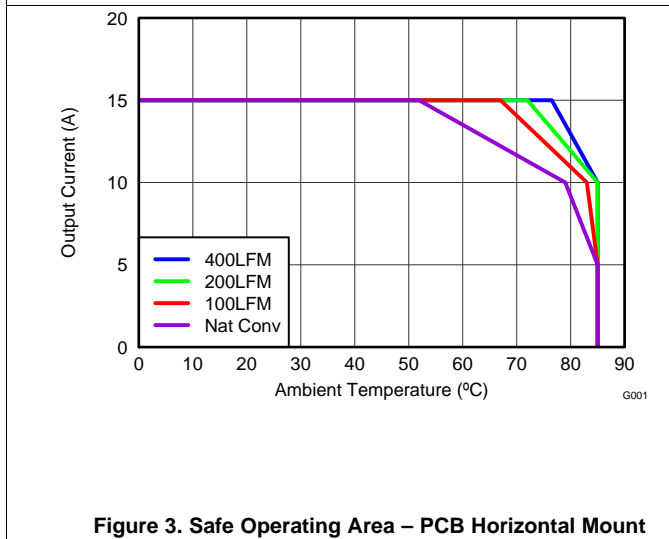

Figure 3. Safe Operating Area – PCB Horizontal Mount
$T_J = 125^{\circ}\text{C}$ , unless stated otherwise. For Figure 3 and Figure 4, the Typical Power Block System Characteristic curves are based on measurements made on a PCB design with dimensions of 4 inches (W) × 3.5 inches (L) × 0.062 inch (H) and 6 copper layers of 1 oz. copper thickness. See Application and Implementation for detailed explanation.
$T_J = 125^\circ\text{C}$ , unless stated otherwise. For Figure 3 and Figure 4, the Typical Power Block System Characteristic curves are based on measurements made on a PCB design with dimensions of 4 inches (W) x 3.5 inches (L) x 0.062 inch (H) and 6 copper layers of 1 oz. copper thickness. See Application and Implementation for detailed explanation.
The SOA curves in the CSD87381P data sheet provides guidance on the temperature boundaries within an operating system by incorporating the thermal resistance and system power loss. Figure 3 to Figure 4 outline the temperature and airflow conditions required for a given load current. The area under the curve dictates the safe operating area. All the curves are based on measurements made on a PCB design with dimensions of 4 inches (W) × 3.5 inches (L) × 0.062 inch (T) and 6 copper layers of 1 oz. copper thickness.